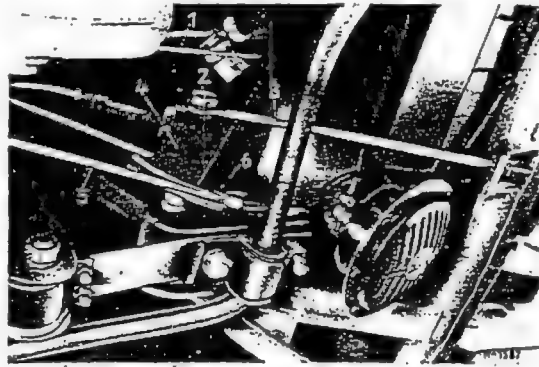

Fig. 33-1/12
6. Remove the cotter pin (6) securing the center brake cable (5) to the lower part of the hand-brake lever and detach the brake cable (Fig. 33-1/12).